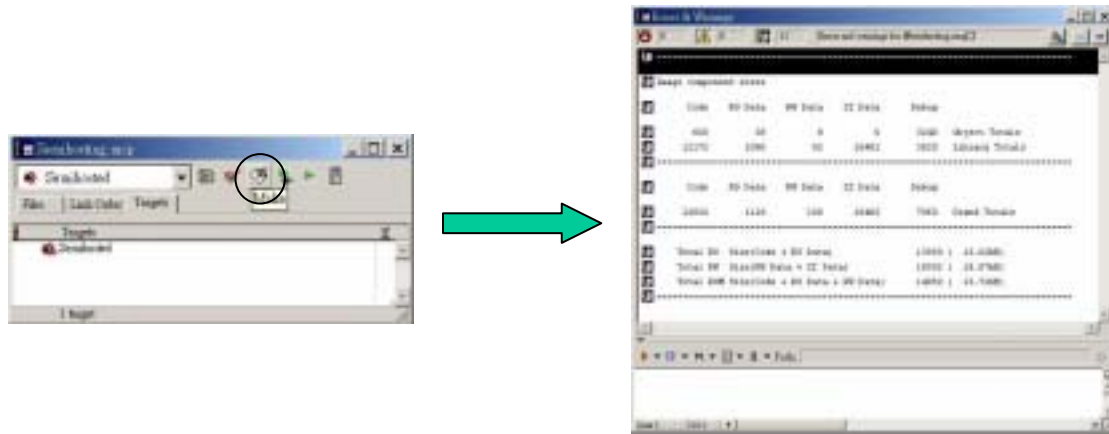

Figure 11 Make the project from the Project Window
- (1) A compiling and linking status windows would appear to indicate making progress.
- (2) After finishing compiling and linking, a result message windows would appear (Figure 11). Check for errors and warnings.